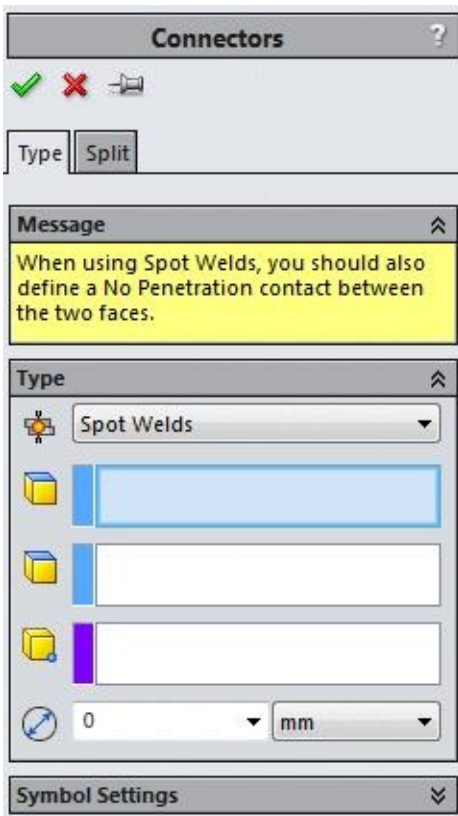

Figure-76. Connectors PropertyManager with Spot Welds option
- Click on the **Spot Welds** option from the **Connections Advisors** drop-down. The **Connectors PropertyManager** will be displayed as shown in Figure-76.